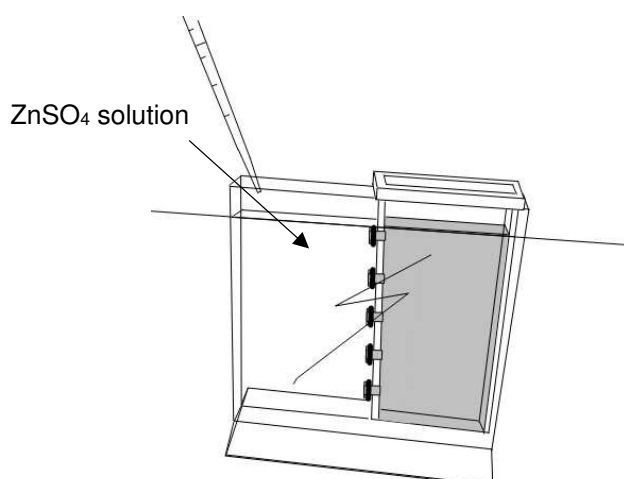

Fig. 7 Putting zinc sulfate solution in the larger tank
4. Put the zinc sulfate solution (180 mL) carefully into the larger tank using another pipette or dropper until the solution surface lines up with the surface of the copper sulfate solution in the smaller tank (Fig. 7).